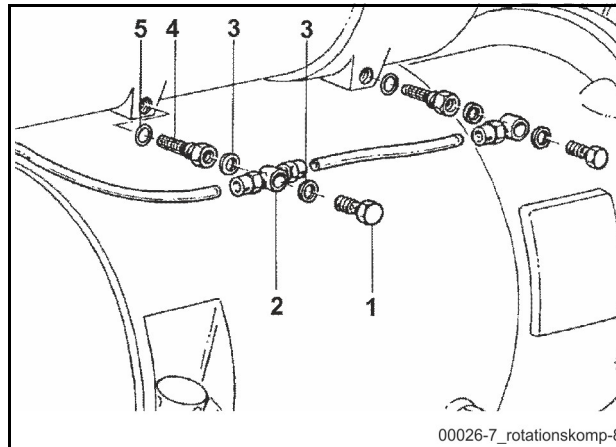

Fig. 362 Oil return valves
- Loosen the hollow screws **(1)** **(Fig. 362)**.